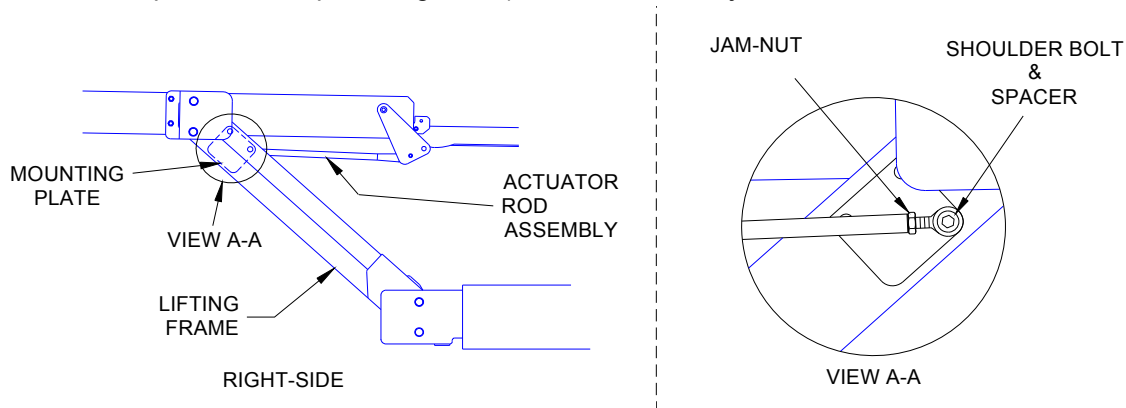

FIGURE 4-32: BRIDGEPLATE ACTUATOR ROD REMOVAL
- c. Raise platform to vehicle floor height using control pendant (UP), and then support.
- e. Refer to **Figure 4-32**. View A-A is from beneath platform. Locate right-side actuator rod assembly (right-hand side of platform, at top of lifting frame). Loosen rod-end jam-nut.